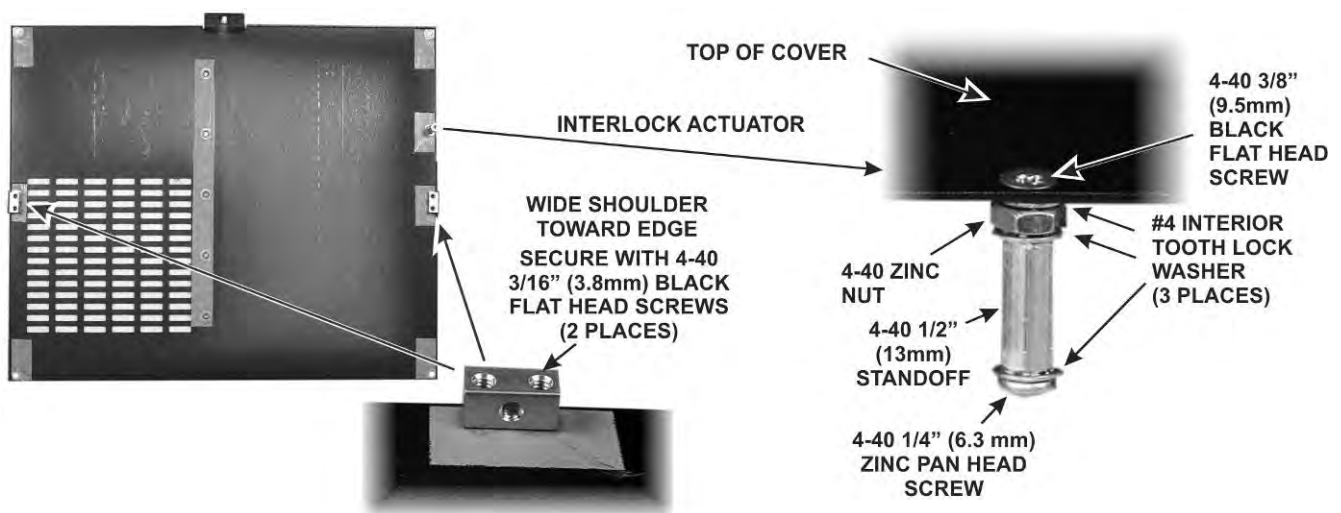

Figure 63. Preparing Top Cover for Installation.
- ☐ Mount two 2D fasteners and the interlock actuator on the bottom (inside) surface of the top cover as shown in Figure 63. The interlock actuator will press against the interlock switch on the side panel when the top cover is in place to enable the high voltage supply.